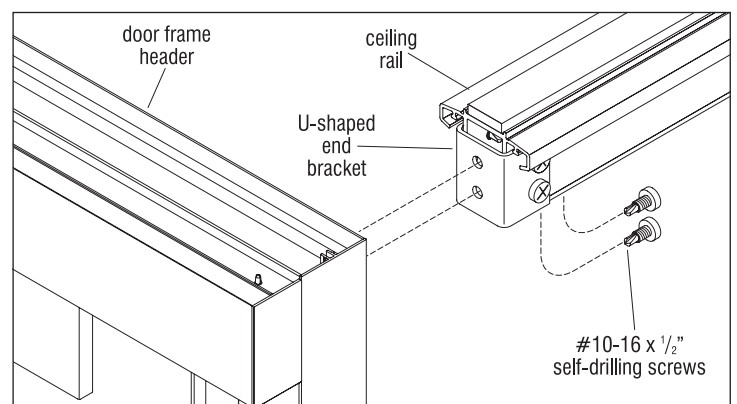

Figure 8
10. Align ceiling rail so trim sits flush when installed. Use the supplied #10-16 x 1/2" self-drilling screws to attach the ceiling rail to the door frame header (Figure 8).